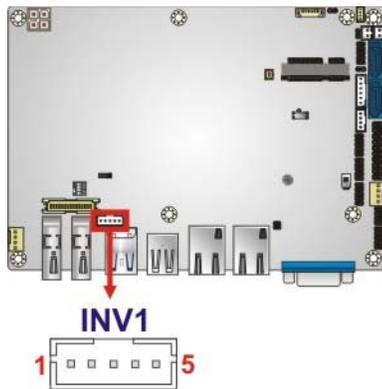

Figure 3-14: LVDS Backlight Inverter Connector
- CN Location:** See **Figure 3-14**